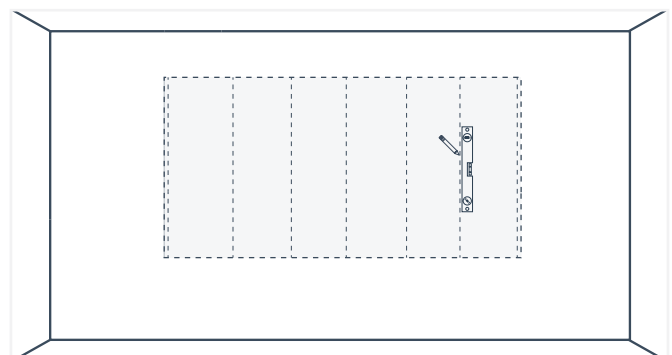

Fig. 25
5. Use a level to mark the stud from the top to the bottom of the installation area (Fig. 25).